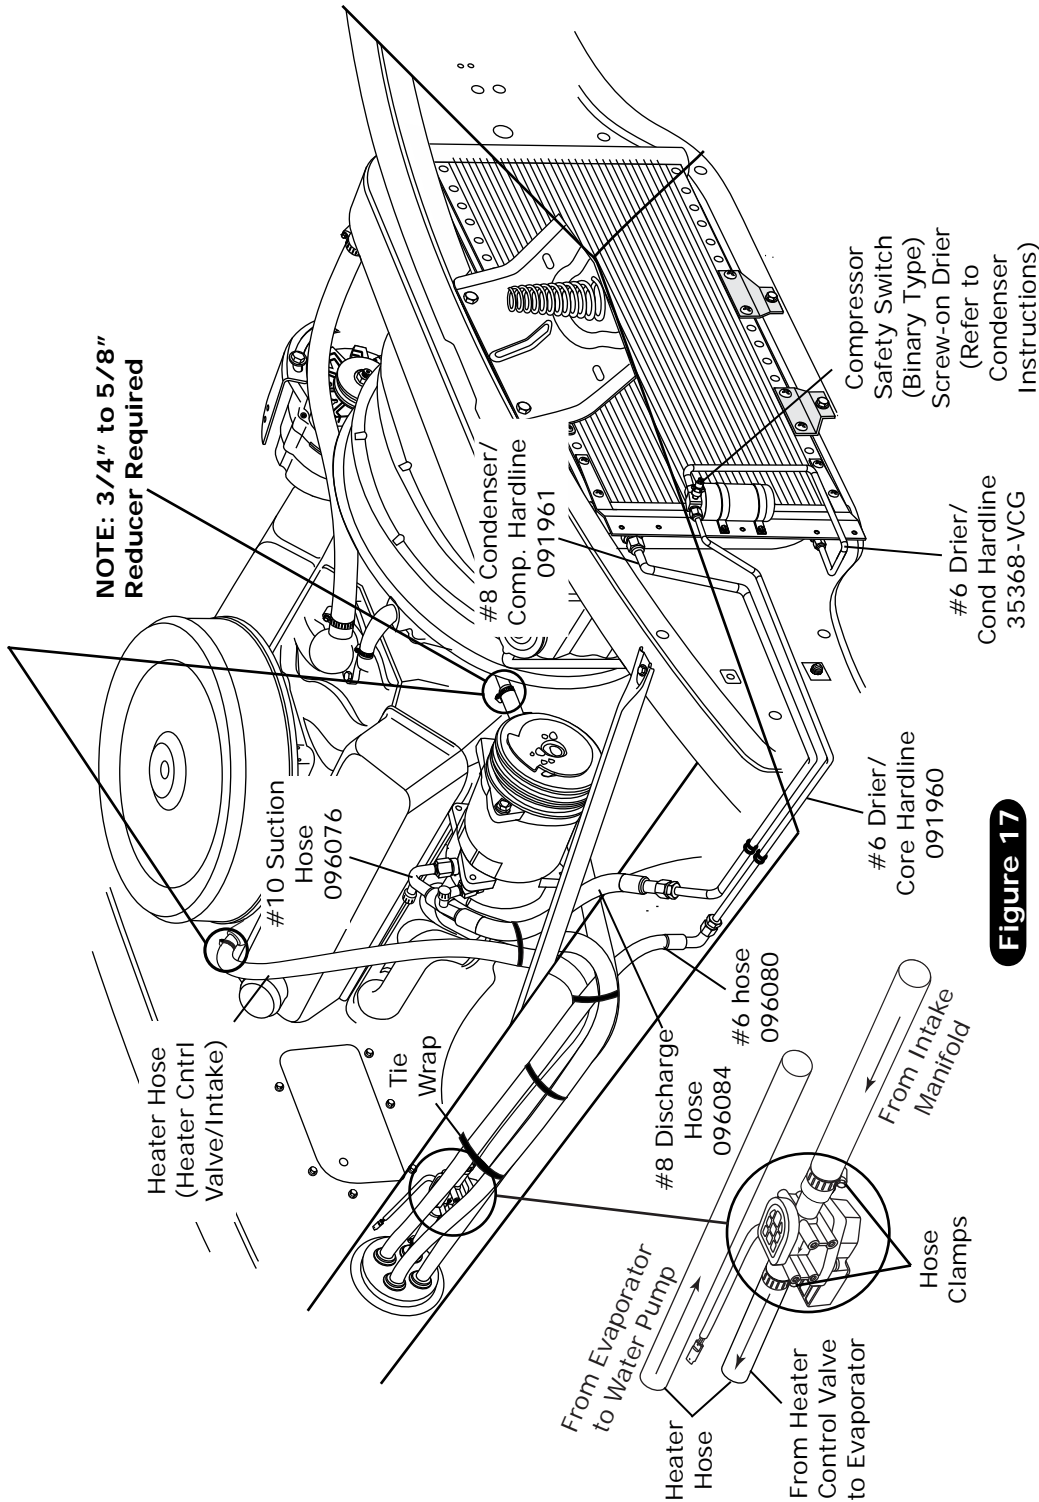

Figure 17
1. Locate the #8 compressor A/C hose. Lubricate (2) #8 O-rings (See Figure 16, above) and connect the 135° female fitting w/ 134a service port to the #8 discharge port on the compressor. Route the straight female fitting to the #8 condenser hardline coming through the core support (See Figure 17, Page 16). Tighten each fitting connection as shown in Figure 16, above.
2. Locate the #10 compressor A/C hose. Lubricate (2) #10 O-rings (See Figure 16, above) and connect the #10 135° female fitting w/134a service port to the #10 suction port on the compressor. Route the 90° female fitting to the #10 evaporator (See Figure 14a, Page 14, and Figure 17, Page 16). Tighten each fitting connection as shown in Figure 16, above.
3. Locate the #6 evaporator A/C hose. Lubricate (2) #6 O-rings (See Figure 16, above) and connect the 90° female fitting to the #6 hardline coming through the core support from drier. Route the 90° female fitting to the #6 evaporator (See Figure 14a, Page 14, and Figure 17, Page 16). Tighten each fitting connection as shown in Figure 16, above.
1. Route a piece of heater hose from the water pump to the top heater fitting of the heater core as shown in Figure 14a, Page 14, and Figure 17, below. Secure using hose clamps.
2. Route a piece of heater hose from the intake to the bottom heater fitting of the heater core as shown in Figure 14a, Page 14, and Figure 17, below. **NOTE: Install heater control valve in line with intake manifold (pressure side) heater hose, and secure using hose clamps as shown in Figure 17, below. Note proper flow direction.**